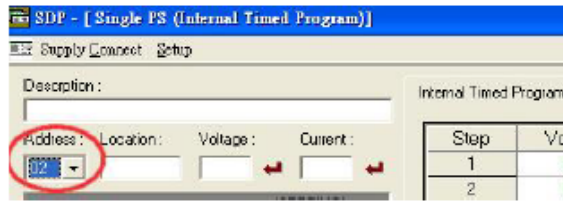

Figure 8.5a Address of each Power Supply.
8. By choosing the address in the Address Field (Figure 8.5a) You can input the desired settings for each power supply as given in Section 8.4.2a on page 20.